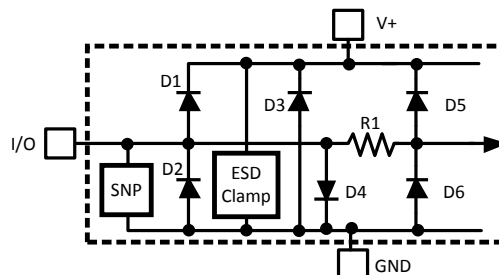

Figure 1. ESD Protection Input Structure
- (1) Absolute Maximum Ratings indicate limits beyond which damage to the device may occur. DC and AC electrical specifications do not apply when operating the device beyond its rated operating conditions.
- (2) When the input voltage (V_I) at any pin exceeds the power supplies ($V_I < \text{GND}$ or $V_I > V_{DD}$), the current at that pin should be limited to 5 mA. Parasitic components and or ESD protection circuitry are shown in Table 1 and Figure 1 for the LM86's pins. The nominal breakdown voltage of D3 is 6.5 V. Care should be taken not to forward bias the parasitic diode, D1, present on pins: D+, D-. Doing so by more than 50 mV may corrupt a temperature measurements.
- (3) See the URL "<http://www.national.com/packaging/>" for other recommendations and methods of soldering surface mount devices.
- (4) Human body model, 100pF discharged through a 1.5k Ω resistor. Machine model, 200pF discharged directly into each pin.